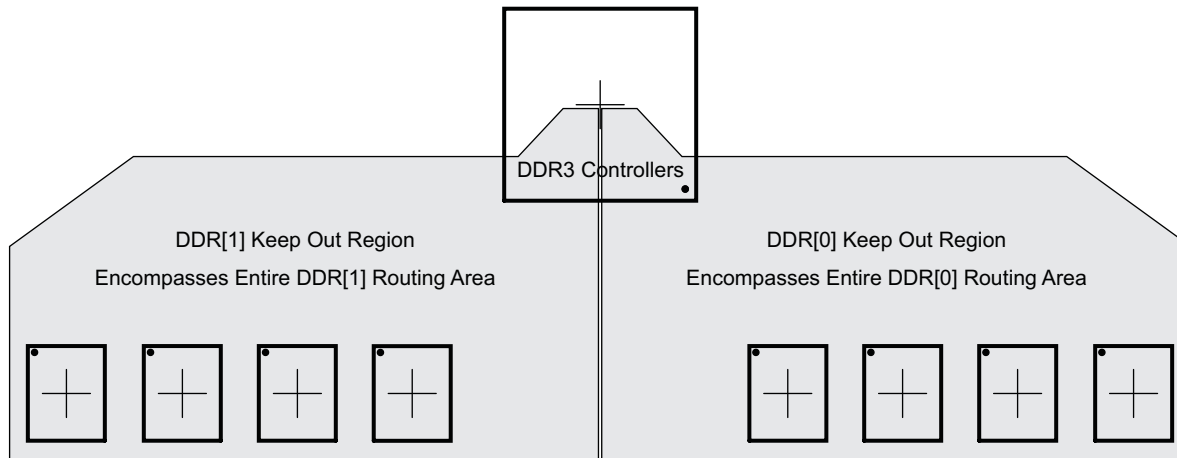

Figure 9-57. DDR3 Keepout Region
- (2) Measurements from center of processor to center of DDR3 device.
- (3) Minimizing X1 and Y improves timing margins.
- (4) w is defined as the signal trace width.
- (5) Non-DDR3 signals allowed within DDR3 keepout region provided they are separated from DDR3 routing layers by a ground plane.
- (6) If a device has more than one DDR controller, the signals from the other controller(s) are considered non-DDR3 and should be separated by this specification.
The region of the PCB used for DDR3 circuitry must be isolated from other signals. The DDR3 keepout region is defined for this purpose and is shown in Figure 9-57. The size of this region varies with the placement and DDR routing. Additional clearances required for the keepout region are shown in Table 9-70. Non-DDR3 signals should not be routed on the DDR signal layers within the DDR3 keepout region. Non-DDR3 signals may be routed in the region, provided they are routed on layers separated from the DDR signal layers by a ground layer. No breaks should be allowed in the reference ground layers in this region. In addition, the 1.5-V DDR3 power plane should cover the entire keepout region. Also note that if there is more than one DDR controller, the signals from each controller need to be separated from each other by the specification in Table 9-70, item 5. Each DDR controller should have its own DDR keepout region.
Figure 9-57 is an example of a processor with two DDR controllers. Processors with a single DDR controller will have only one DDR keepout region. Each DDR controller should have its own keepout region.